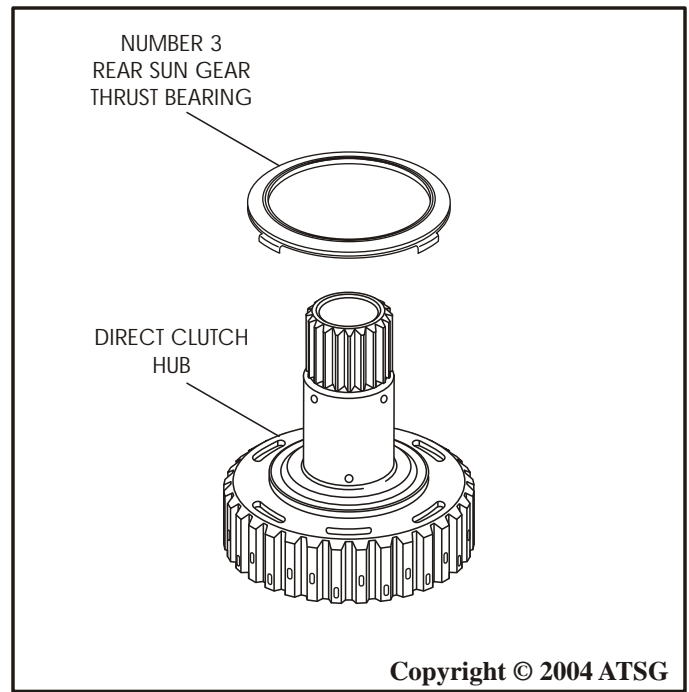

Figure 87
4. Install number 3 rear sun gear thrust bearing onto the direct clutch hub, in the direction shown in Figure 87, and retain with a small amount of Trans-Jel®.